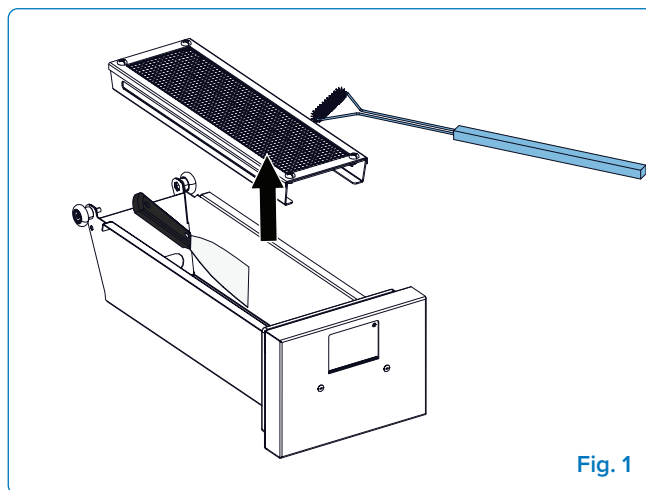

Fig. 1
4. **Remove and Clean the Mesh** – Take out the mesh that holds the wood chips. Shake off any remaining debris and brush it clean (**Fig. 1**).